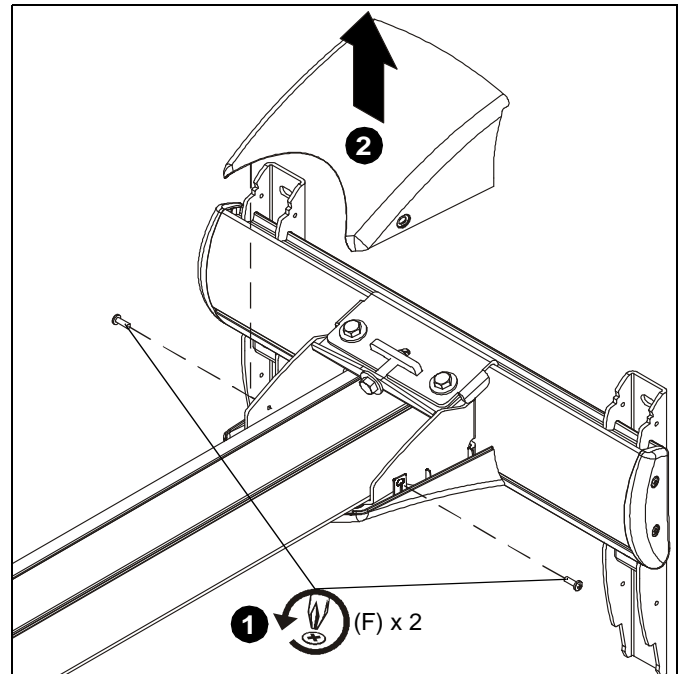

Figure 53
1. Remove and save two 8-32 x 1/2" Phillips pan head screws from upper cover. (See Figure 53)
2. Raise upper cover away from the mount. (See Figure 53)